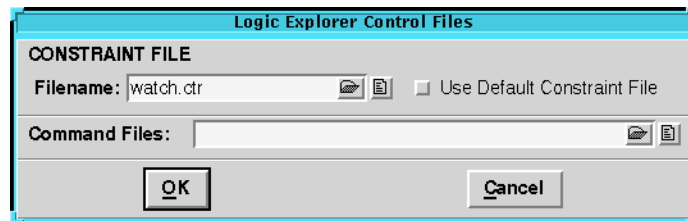

Figure 1-23 Logic Explorer Control Files Dialog Box
24. In the Galileo Extreme window, click on the Control Files button, to open the Logic Explorer Control Files dialog box which is shown in the following figure 1-23.